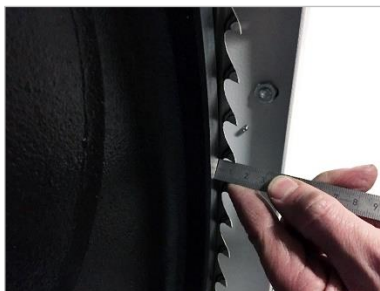

Figure 56: Measure tooth protrusion
- The bandsaw blade should now be positioned on the wheels so that the tips of the teeth protrude approx. 8 - 10 mm from the front edge of the wheel over the entire length of the saw blade (as shown in ⇒ Figure 56).